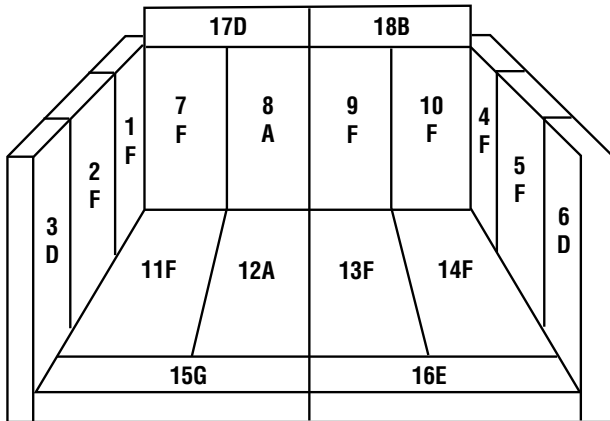

Figure 13
1. Install bricks #1-18 in the numbered sequence shown in **Figure 13 (Page 14)**.